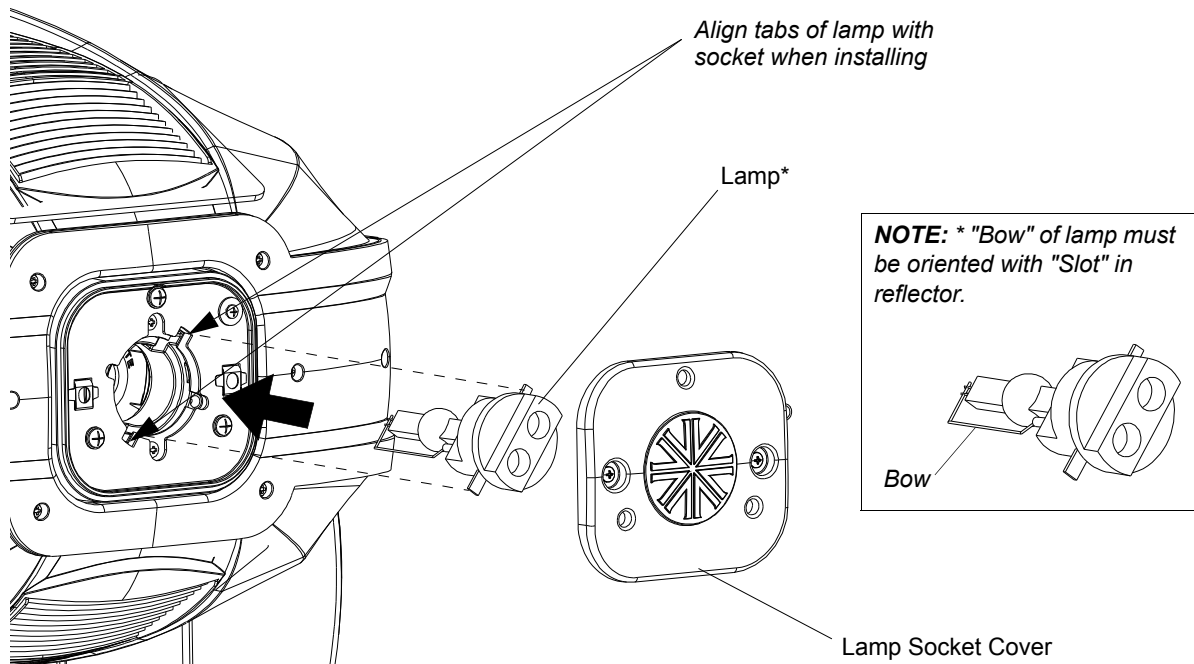

Figure A-2: Lamp Installation
- Step 5. To remove lamp, grasp lamp base by hand, twist lamp counter-clockwise until lamp's tabs align with slots in lamp socket (see Figure A-2 on page 85 for more information), and remove lamp by pulling it straight out of socket.
Step 7. As shown in Figure A-2, align replacement lamp tabs with lamp socket.